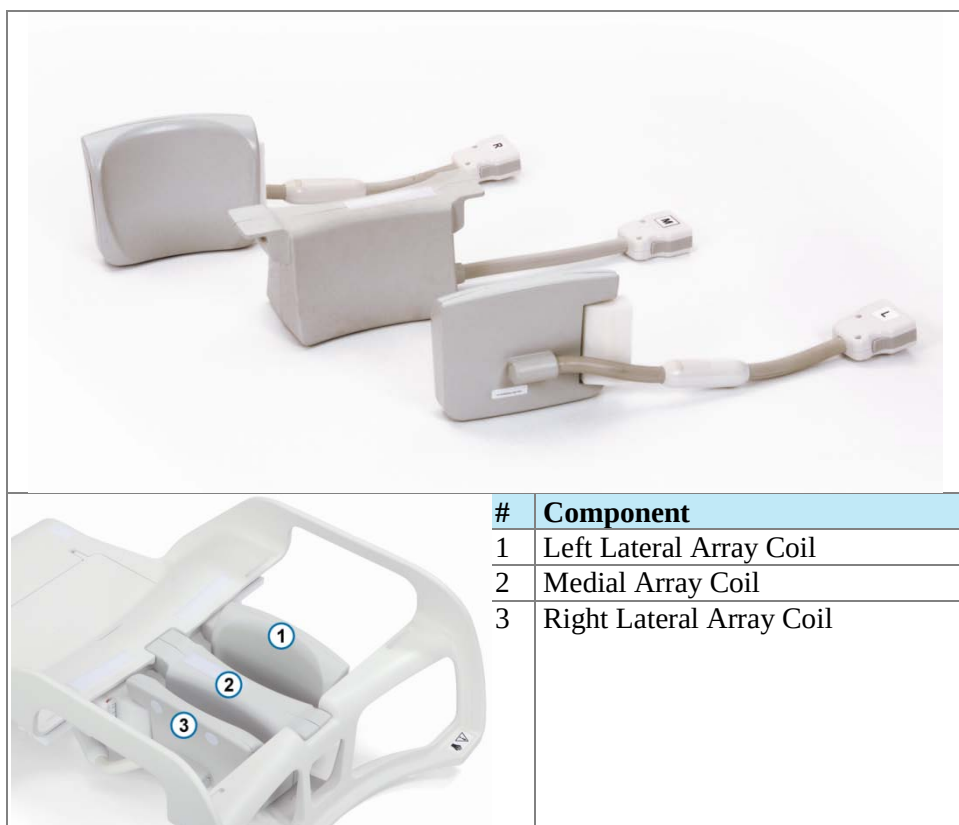

Figure 17 Bilateral Imaging Components and Setup (Without Padding)
2. Install and connect the three coil cables of the 16-channel coil set to the Vanguard table (refer to Figure 17) and plug in the Vanguard system cable into the P-port receptacle.